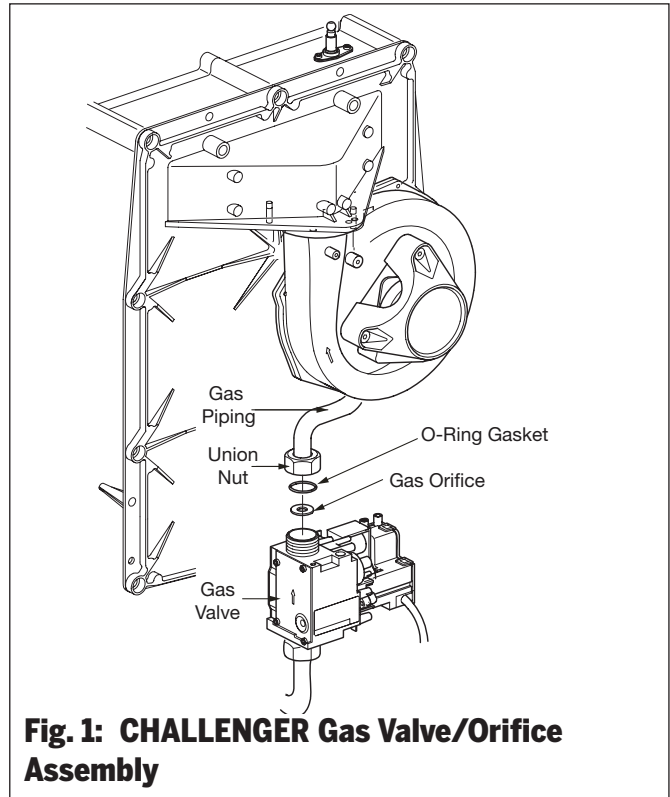

Fig. 1: CHALLENGER Gas Valve/Orifice Assembly
4. Disconnect the gas piping inside the CHALLENGER enclosure at the brass union located above the gas valve, and rotate piping towards the back of appliance, see Fig. 1.